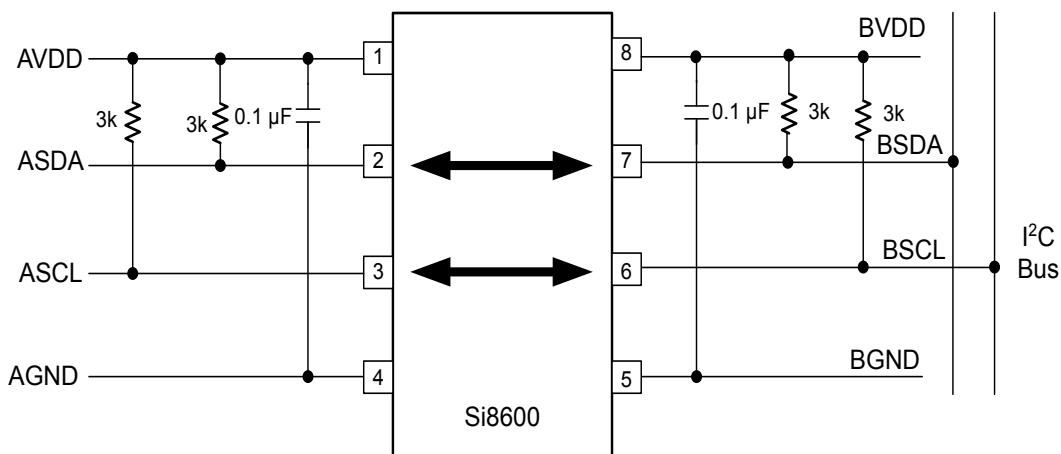

Figure 3.2. Typical Si8600 Application Diagram
3.0 V < VDD < 5.5 V. TA = -40 to +125 °C. Typical specs at 25 °C (See Figure 5.2 Simplified Timing Test Diagram on page 18 and Figure 3.2 Typical Si8600 Application Diagram on page 8 for test diagrams.)